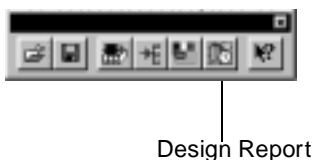

Figure 6-10. Design Report
1. **Click the Design Report button in the toolbar, as shown in Figure 6-10.**